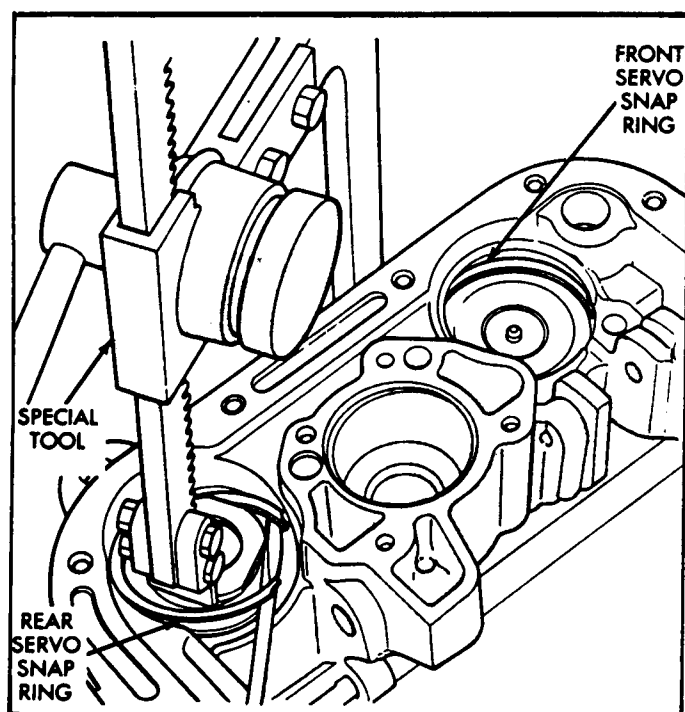

Figure 39
30. Install spring compressor, compress the spring, and install snap ring, as shown in Figure 39.